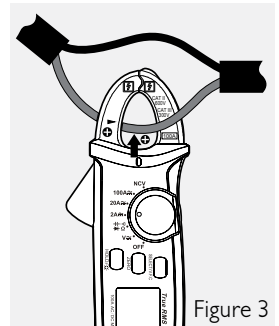

Figure 3
- Turn on the product using the rotary switch and select the 2A $\approx$, 20A $\approx$ or 100A $\approx$ measurement range. Briefly press the SELECT/V.F.C button (4) to switch to the DC measurement range. < DC > and < A > appear on the display.
- Set the display to zero without a conductor and when the clamp is closed by briefly pressing the ZERO button (9). The zero reset is confirmed by a beep tone and < ZERO > will appear on the LCD display. Briefly pressing the ZERO button will reset the display to zero again. To disable this function, press and hold the ZERO button for approx. 2 seconds. The < ZERO > symbol disappears. This will take you back to the normal measuring mode without the zero reset.
- Always ensure the correct polarity of the current clamp for direct current measurements. The $\oplus$ / $\ominus$ polarity symbols are located on the front and back of the current clamp. The cable from the current source (+) must run from the front through the current clamp to the load (figure 3).